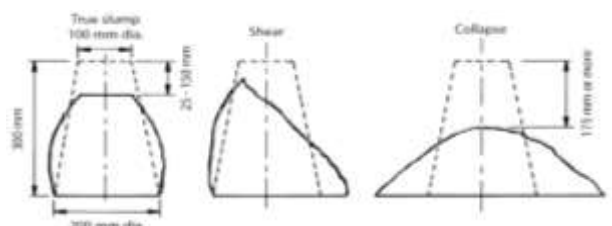

Figure 4
11. If you don't get a true slump (see Figure 4), repeat the test. If the slump is still not normal, ask for advice.